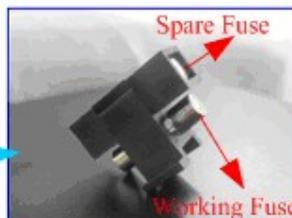
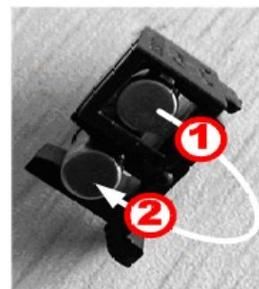

Fig. 4-1
Fig. 4-2
Step 2: Take out the fuse holder by a 3\*75 flat screwdriver with blade, remove the broken fuse from the working position and replace it with the spare fuse (Fig. 4-1, Fig. 4-2).